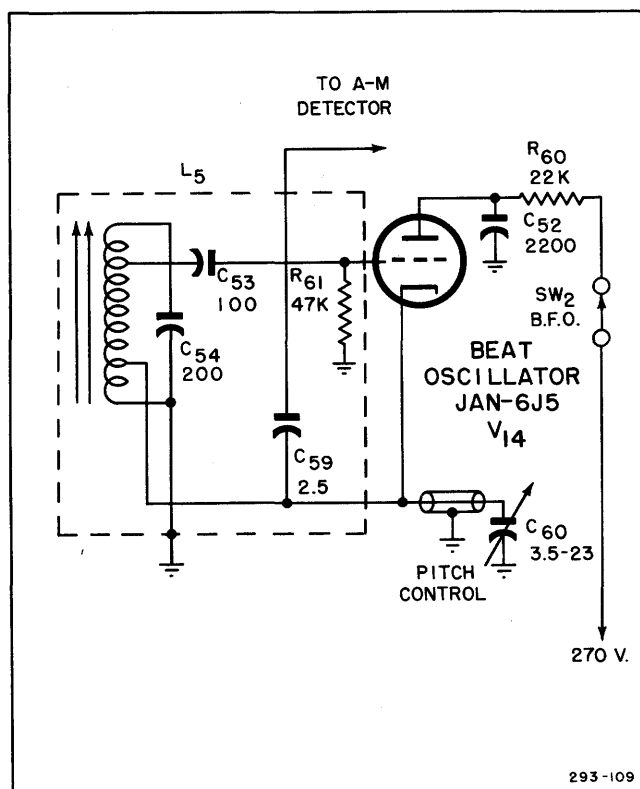

Figure 2-10: Types CHL-46130-C and CHL-46130-D Receiver. Beat Oscillator Stage Simplified Schematic Diagram.
(7) THE "B.F.O."—The beat frequency oscillator circuit (Refer to Figure 2-10), consists of the triode V14 (JAN-6J5), the inductance assembly L5, and the variable capacitor C60. This circuit is a Hartley type tuned oscillator which operates at frequencies from 4.25 to 6.25 megacycles. The oscillator frequency is adjusted by means of a movable powdered iron core within the field of the coil L5. Fine adjustment of the oscillator frequency needed for the control of the beat